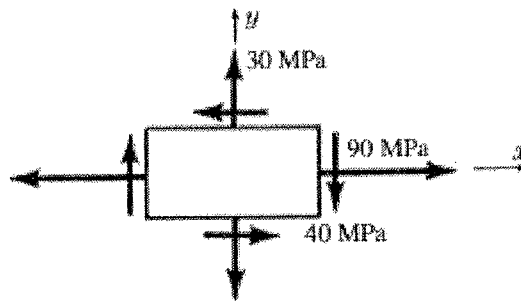

Fig.Q2
The stresses acting on three mutually perpendicular planes at a point in an elastic material are 90 MPa and 30 MPa tensile stresses and 40 MPa shear stresses as shown in Fig.Q2.
- I) Construct Mohr's circle of stress for this(Fig.Q2) stress system. (06 marks)